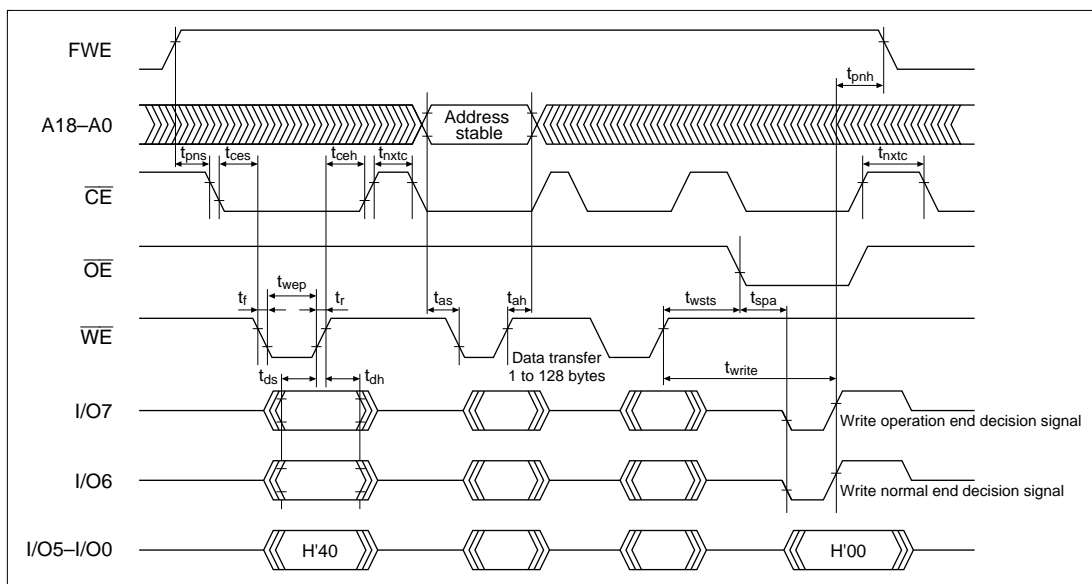

Figure 15-25 Auto-Program Mode Timing Waveforms
4. Memory address transfer is performed in the second cycle (figure 15-25). Do not perform transfer after the third cycle.